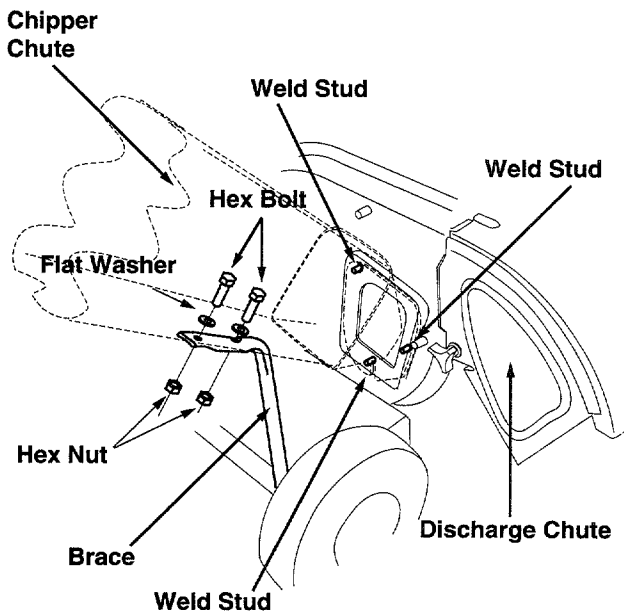

Figure 6
- Remove the three cupped washers and hex nuts from the weld studs beside the opening on the left side of the housing. See figure 6.
- Place the chipper chute over the weld studs so the slot on the chute is towards the bottom. Align the three holes on the chute with the three weld studs. See figure 6.
- Align the holes on the chute with the holes on the brace. See figure 6.
- Insert one each of the hex bolts, lock nuts, and flat washers (that you earlier removed) through each hole in the chute and the brace. See figure 6 for the correct order. Tighten the bolts.